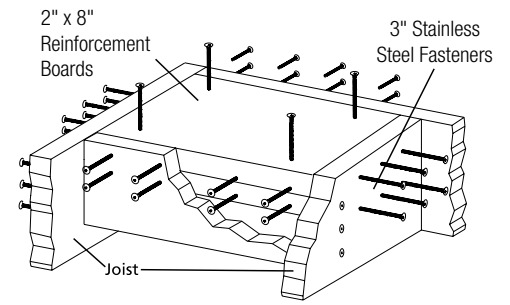

Figure 1
2. The thickness of the wood/composite deck and reinforcement boards underneath the deck should be a minimum of 4". (Two treated and structurally sound 2" x 8" lumber under the deck board, Fig 4). Fasten the reinforcement boards with 3" stainless steel fasteners as shown (Fig 1).